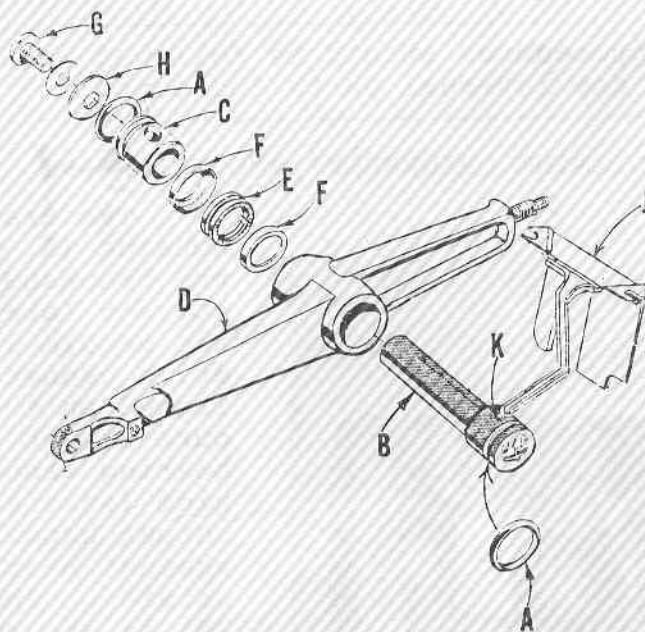

Fig. 20
Install "O" ring (A, Fig. 20) on the needle lever stud (B) and needle lever thrust collar (C). With needle lever (D) in its proper position insert the needle lever stud (B) until the shoulder on the needle lever stud (B) contacts the needle lever (D). Making sure no bind exists in the needle bar link and secure with the front set screw in top of bed casting. Place the temper load ring (E) and compression